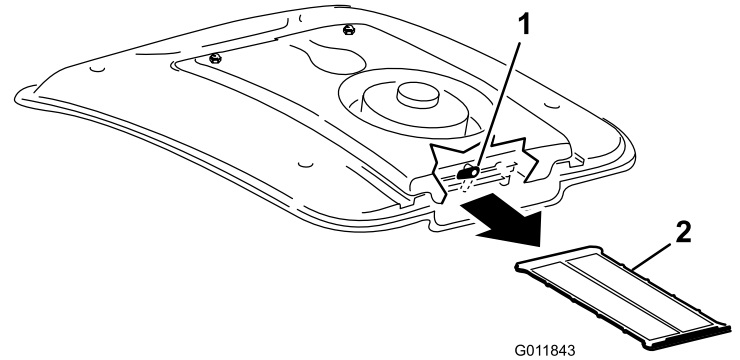

Figure 90
2. On the rear of the fan mount, rotate the latch to the side (Figure 90).
3. Slide the A/C screen out from under the air conditioning coil (Figure 90).
4. Clean the screen thoroughly with compressed air (Figure 90).